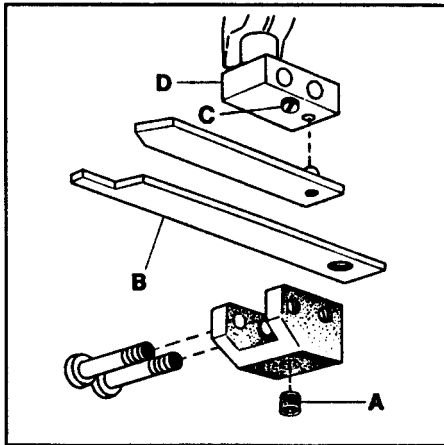

FIG. 30
If necessary loosen screw (A, Fig. 30) and move knife (B) to the right or left as required. Tighten screw (A).
If the shear angle between the knives has to be changed, raise or lower screw (C, Fig. 30) in knife holder shank (D).